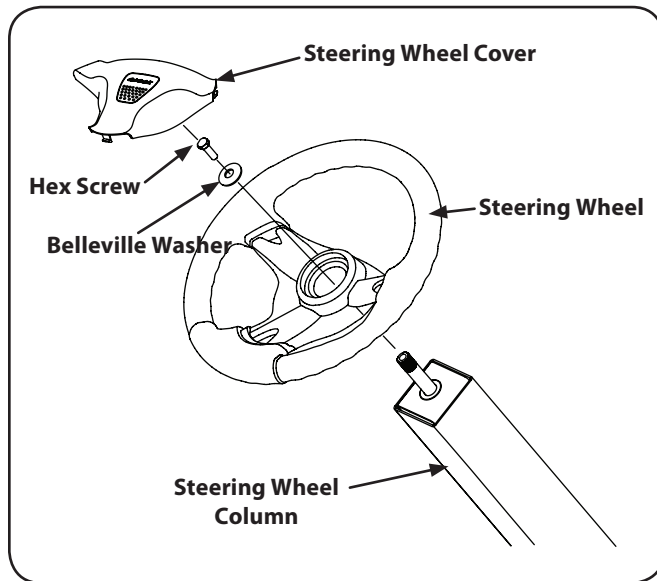

Figure 3-3
3. Place the flat washer and belleville washer over the steering wheel and secure with the hex screw. See Fig. 3-3.